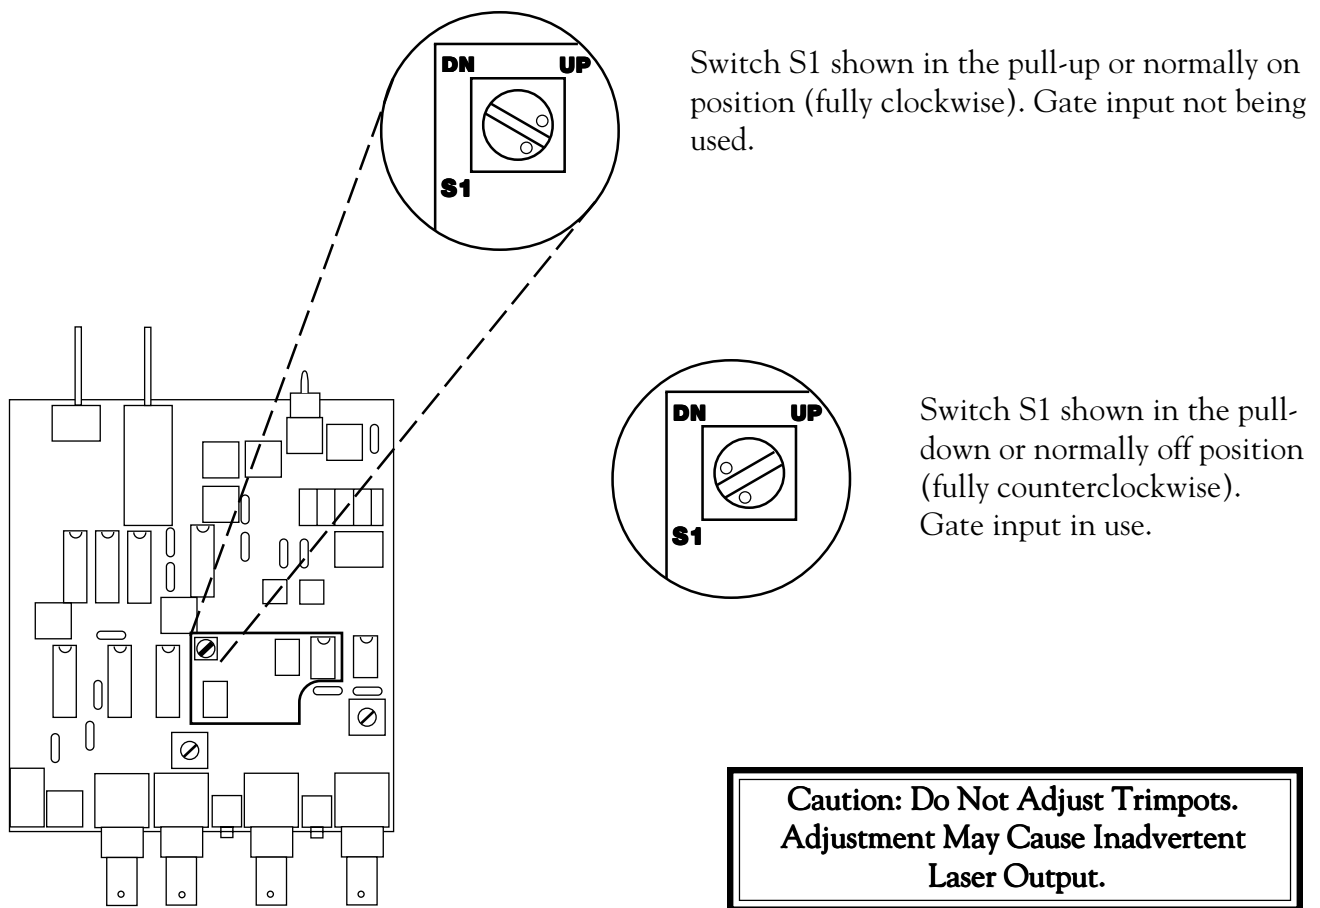

Figure 6 Detail of Switch S1
3. Refer to Figure 6 below and locate super-miniature switch S1 on the upper left-hand corner of the UC-1000 Upgrade Module installed in sockets U2, U3, and U4.